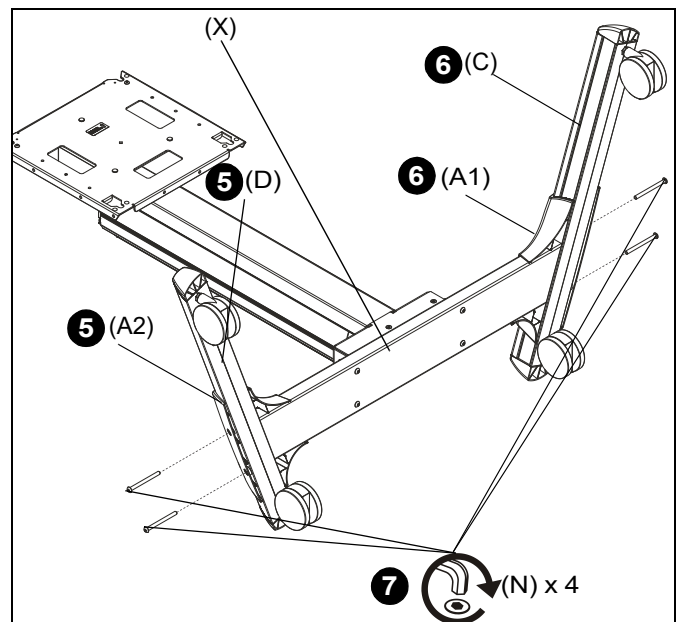

Figure 3
5. Place right transition cover (A2) on right cart leg (D), lining up the holes on the cover with the holes on the leg and cross brace (X). (See Figure 3)
6. Place left transition cover (A1) on left cart leg (C), lining up the holes on the cover with the holes on the leg and cross brace (X). (See Figure 3)
7. Use four 5/16-18 x 3 3/4" button head cap screws (N) to secure legs (C and D) and covers (A1 and A2) to cross brace (X). (See Figure 3)